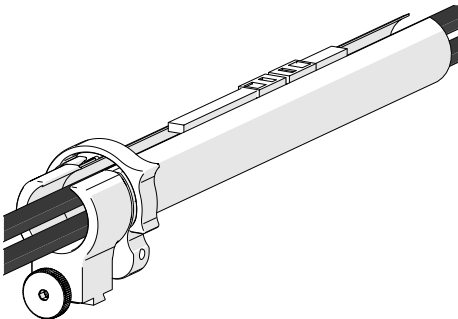

Fig. 35 - Zip opposite end
3. Once the cable is placed the entire length of sleeving, bring the zipper from the sleeving's opposite end, meeting at any point in the middle (*Fig. 35*).